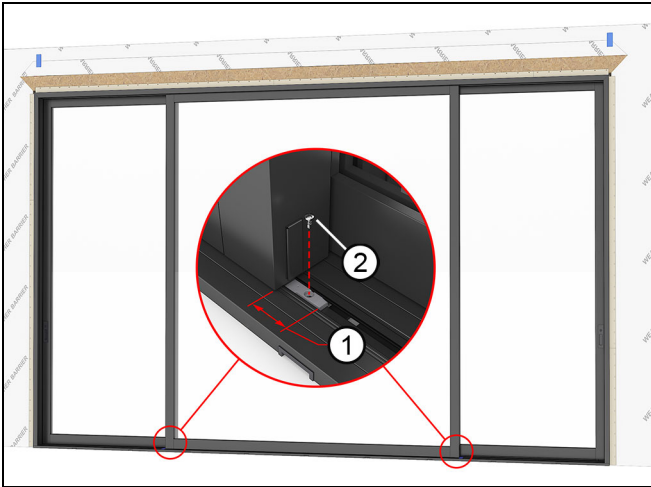

Figure 153 XOX
7. On both sides of the (K) panel, snap the lower stationary brackets onto sill, then slide underneath the stationary panel until fully seated. Each bracket should stick out approximately 2 ¼" (57) from the panel when fully seated. Fasten the brackets with #8 x 1/2" self drilling screws. See Figure 153.